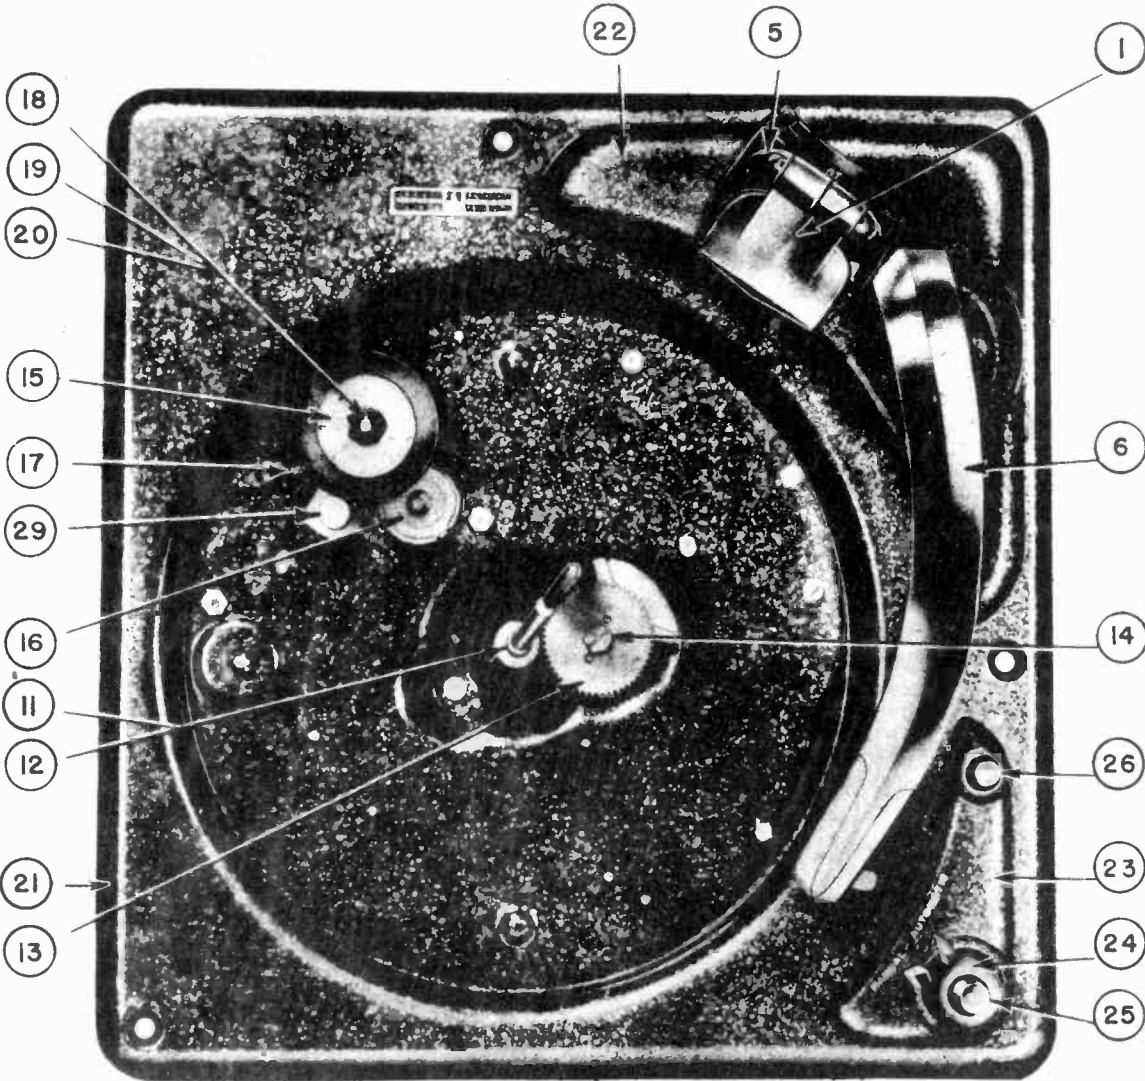

Fig. 4 - PARTS LOCATION - TOP VIEW
- 3 - Ball Bearing Assembly (illus. 12 Fig. 4).
- 4 - Idler Wheel Felt (illus. 19 Fig. 4).
- 1 - Idler Wheel Link (illus. 16 Fig. 4).
- 3 - Teeth of Large and Small idler Gears (illus. 13 Fig. 4).